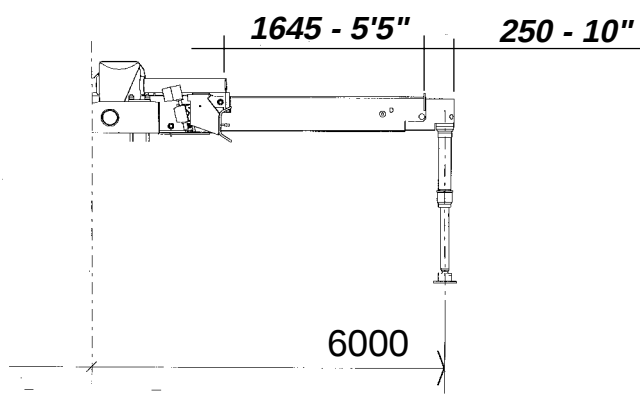

Fig.6-3
6.5 BRACCI STABILIZZATORI EXTRALLARGABILI (Fig. 6-3)
6.5 OUTRIGGERS BOOMS IN EXTRA LARGE VERSION (Fig. 6-3)